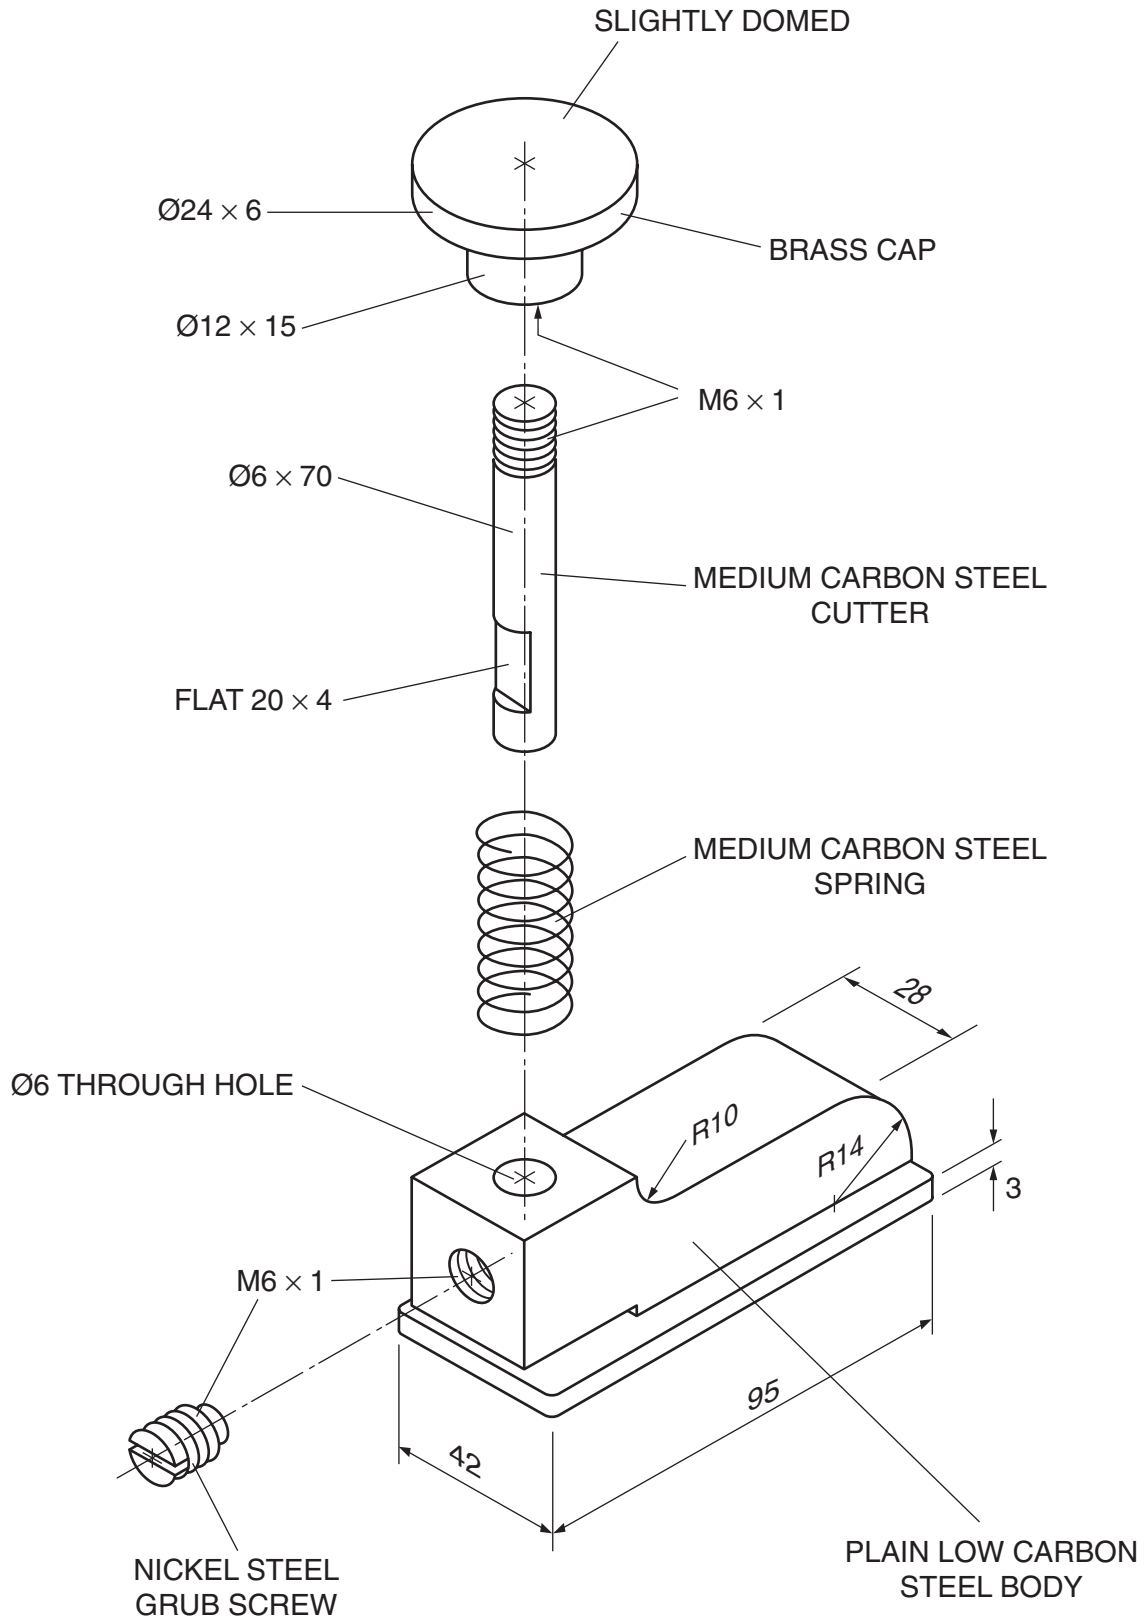

Fig. 1
- 1 The exploded pictorial drawing of a simple single hole paper punch is shown in Fig. 1.